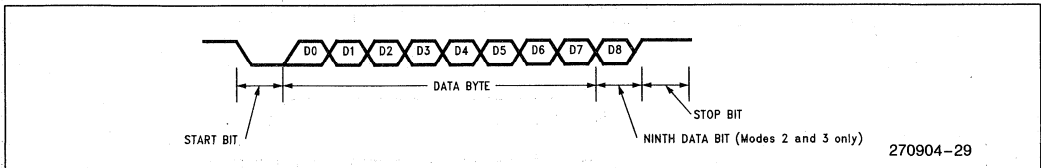

Figure 24. Data Frame: Modes 1, 2 and 3
Mode 2: 11 bits are transmitted (through TXD) or received (through RXD): a start bit (0), 8 data bits (LSB first), a programmable 9th data bit, and a stop bit (1). Refer to Figure 24. On Transmit, the 9th data bit (TB8 in SCON) can be assigned the value of 0 or 1. Or, for example, the parity bit (P in the PSW) could be moved into TB8. On receive, the 9th data bit goes into RB8 in SCON, while the stop bit is ignored. (The validity of the stop bit can be checked with Framing Error Detection.) The baud rate is programmable to either $\frac{1}{32}$ or $\frac{1}{64}$ the oscillator frequency.